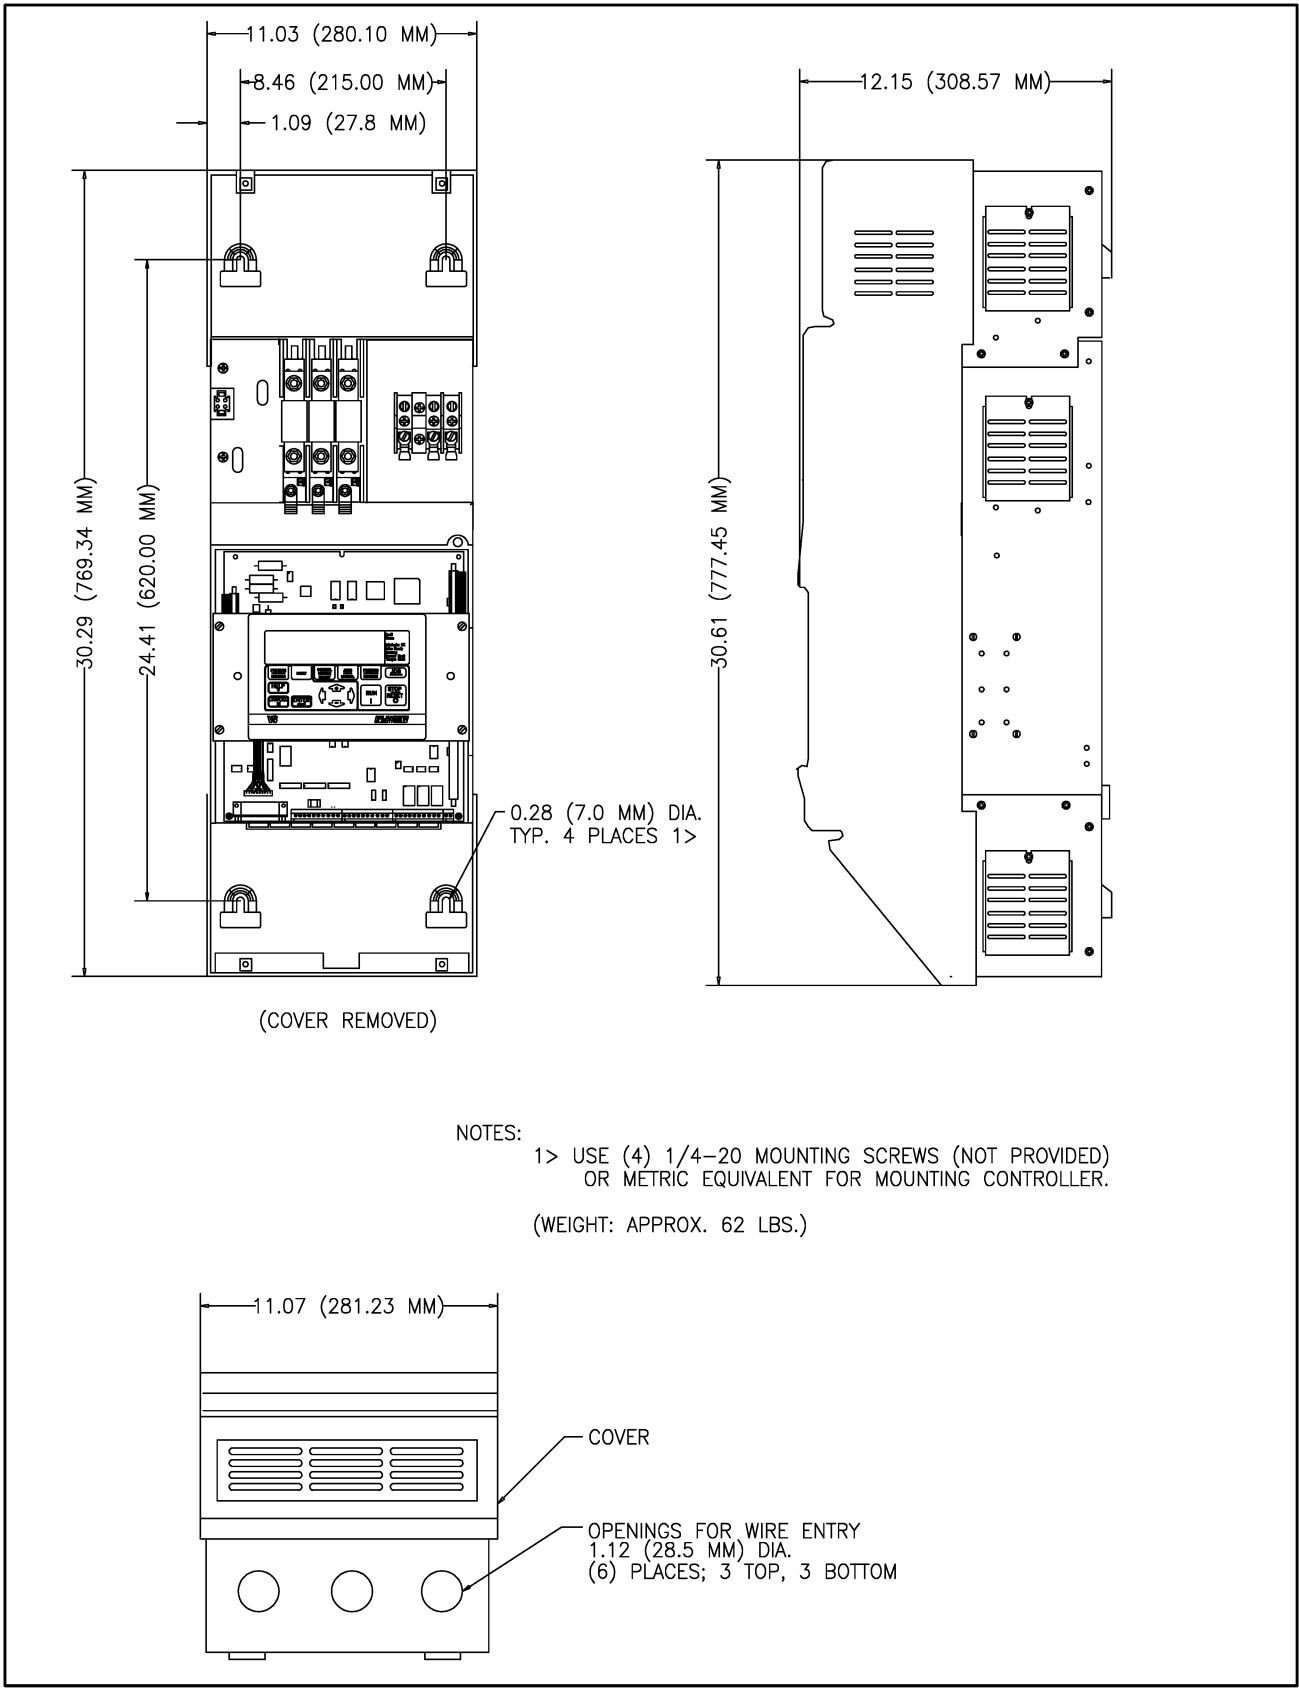

Figure 3 - Mounting the FlexPak 3000 Drive
Step 9. At the location you selected, mount the drive vertically, using the four (4) mounting slots on the drive. Refer to figure 3 as a guide for mounting the drive.